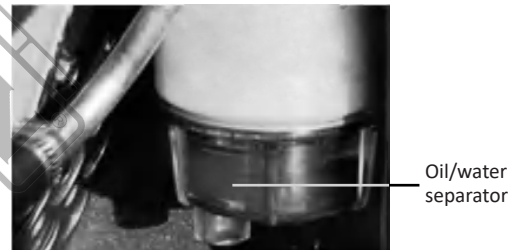

Fig. 1
- The diesel generator is equipped with an oil/water separator (Fig. 1) which drains off water from the diesel.